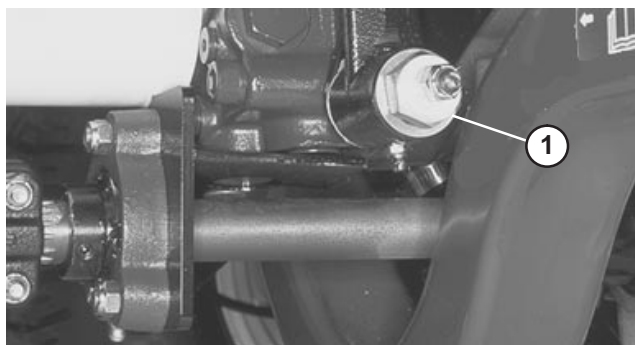

Figure 62
3. Under right side of machine, loosen locknut on traction adjustment cam (Fig. 62).